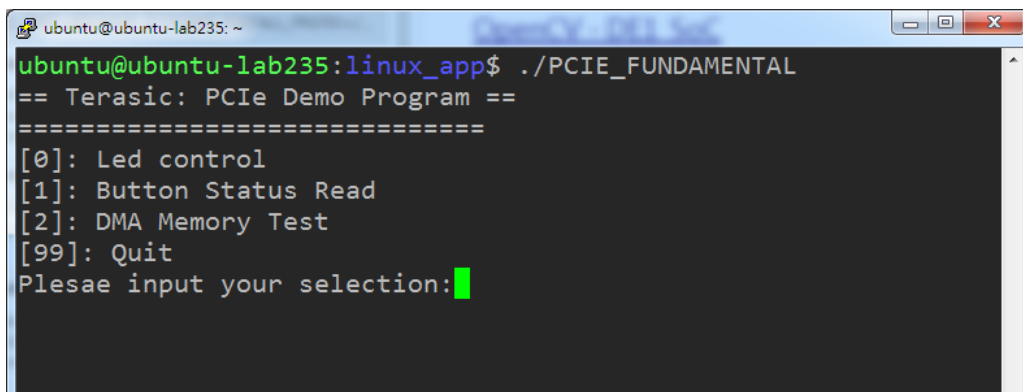

Figure 2-5 Screenshot of Program Menu
8. Goto linux_app folder, execute PCIE_FUNDAMENTAL. A menu will appear as shown in **Figure 2-5**.